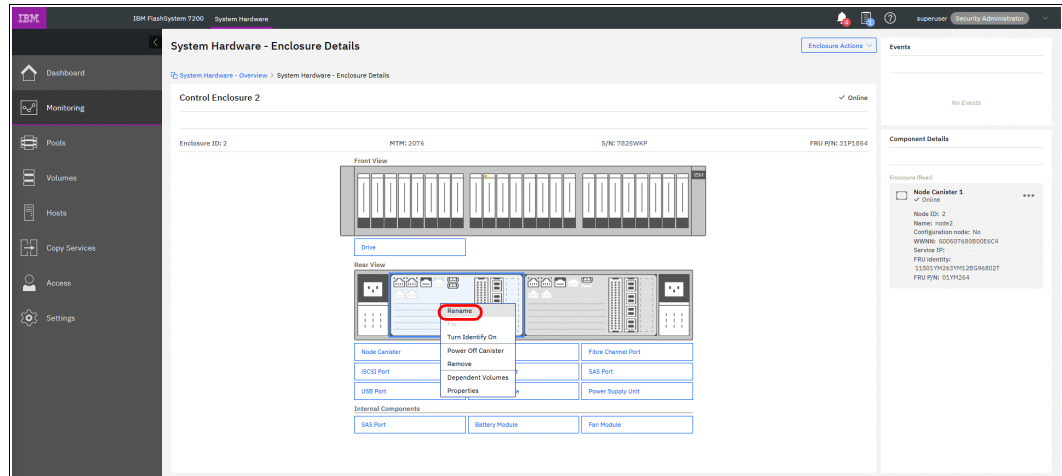

Figure 4-112 Renaming a node on the System Hardware - Overview window
1. Go to the **System Hardware - Overview** window and right-click the node that you want to rename, as shown in Figure 4-112. Click **Rename**.